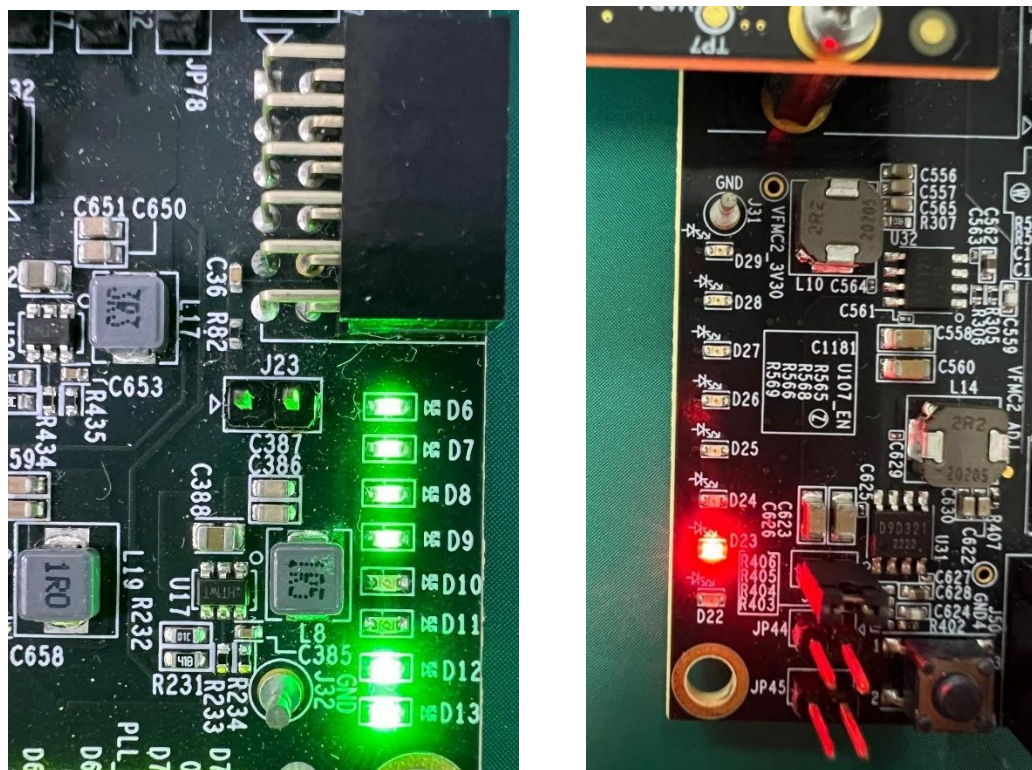

Figure 6.24. LED Status
- Hardware LED Status as shown in Figure 6.24: